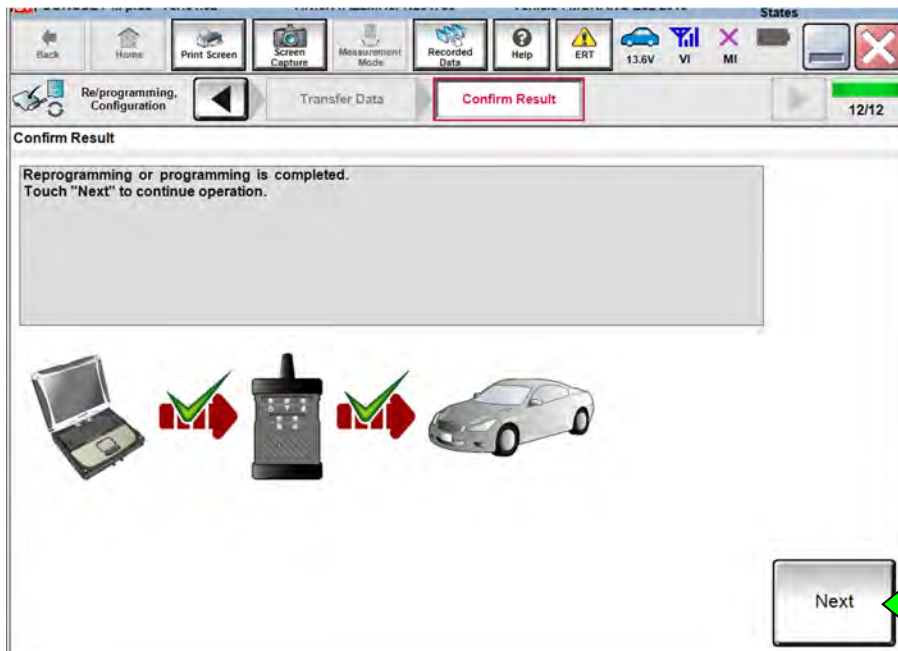

Figure 19
31. When the screen in Figure 19 displays, reprogramming is complete.
NOTE: If the screen in Figure 19 is not displayed (which indicates reprogramming did not complete), refer to the information on the next page.